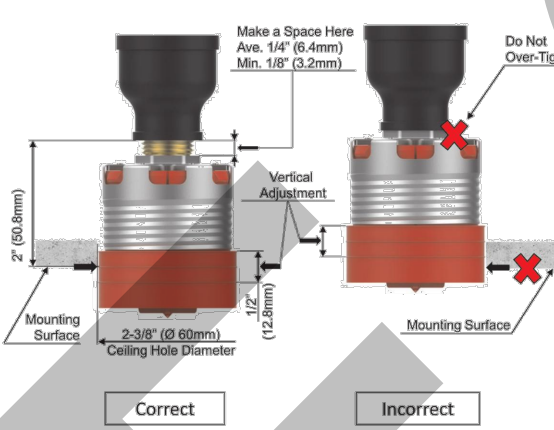

Figure 3: Installation
Step 3: If desired, the Protective Cap may also be used to locate the center of the clearance hole by gently pushing the ceiling material against the center point of the Protective Cap. Before the installation of the ceiling, the sprinkler installation can be started with a 2-3/8 inch (60mm) diameter clearance hole (Ref. Figure 3). Use the "Vertical Adjustment" indicator on the Protective Cap to check for proper installation height (Ref. Figure 3).